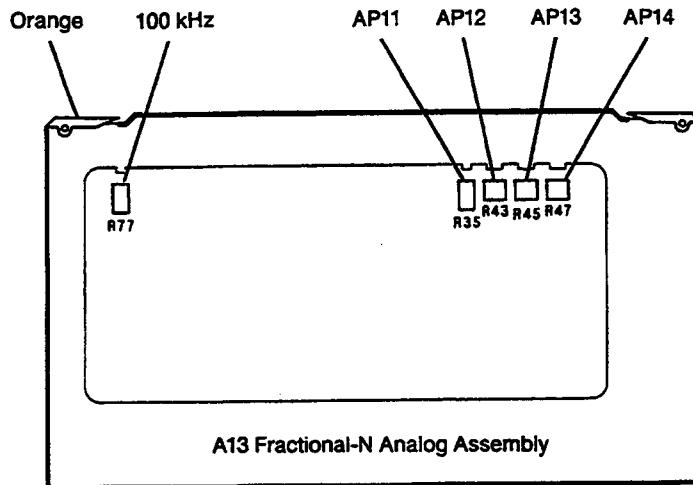

Figure 12. Location of API and 100 kHz Adjustments
6. When prompted, adjust AP11 (see Figure 12) for minimum signal amplitude. Press any key to continue.